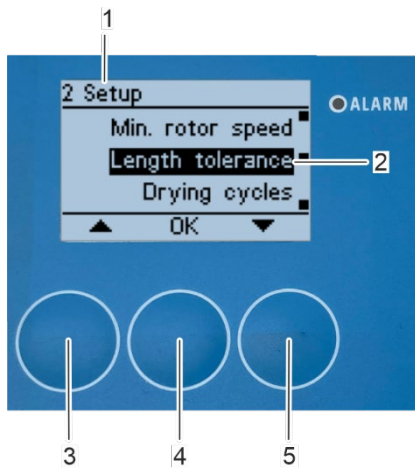

Fig. 133: Open submenu "length tolerance"
⇒ The "2 Setup" submenu appears again on the display again (Fig. 133/1).
1. Select the "Length tolerance" submenu (Fig. 133/2) with the arrow keys [up] (Fig. 133/3) and [down] (Fig. 133/5) in "2 Setup" submenu (Fig. 133/1).
2. Confirm the selection with [OK] (Fig. 133/4).